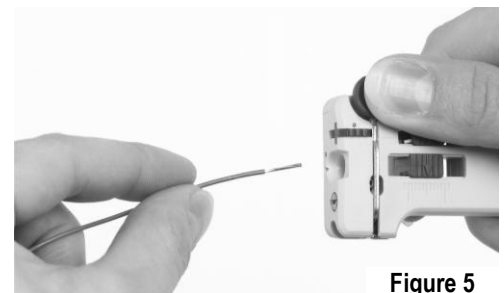

Figure 5
5. Depress the Stripper Blade Lever, while holding the Stripper Blade Lever closed, pull the tool away from the wire. See Figure 5.